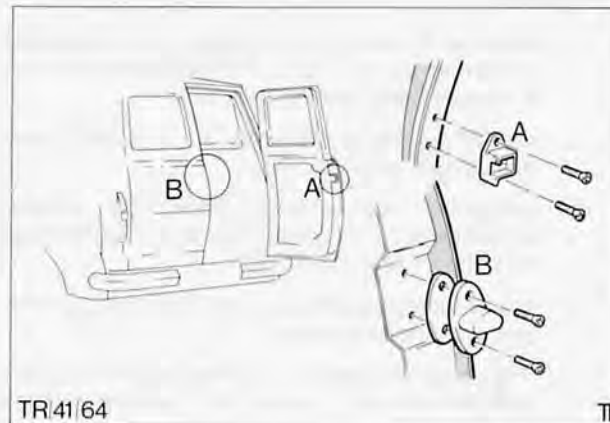

Fig. 51. Male and female dovetails rear
6. Check alignment of door dovetails, if necessary, add or subtract shims (to a maximum of four) under male dovetail (RH door) to achieve satisfactory engagement of dovetails, Fig. 51.